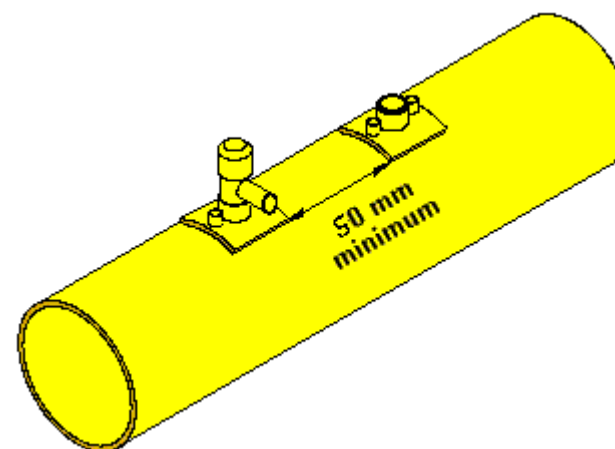

Figure D16 – Failed fusion arrangements
9. Select a new position for the new tapping tee, minimum of 50 mm from failed tee (Figure D16).